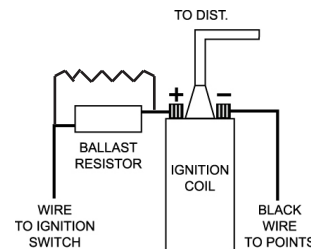

FIGURE 2
2. Attach the black Ignitor II wire to the negative coil terminal. Attach the red Ignitor II wire to the positive coil terminal. (**See Figure 2**)